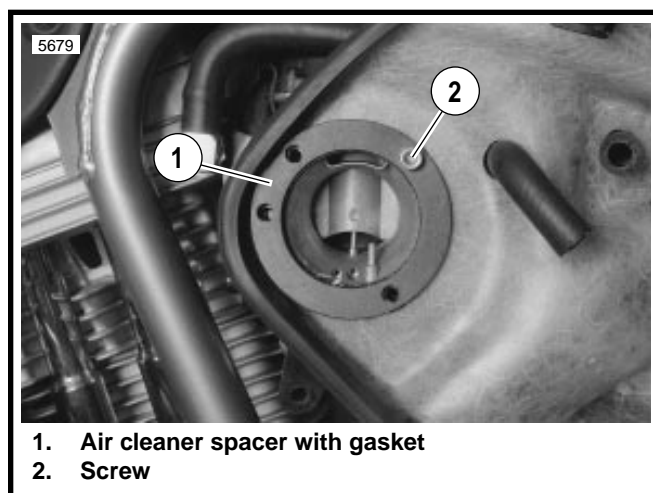

Figure 4-18. Air Cleaner Spacer
6. See Figure 4-18. Remove screw with spacer and gasket.
4. See Figure 4-18. Apply LOCTITE THREADLOCKER 242 (blue) to screw. Install ring with screw through backplate. Tighten to 7-9 ft-lbs (9.5-12.2 Nm).